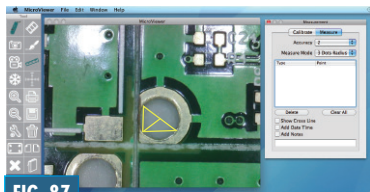

FIG. 87
5. Click the mouse on the third point of the radius or arc and the measurement will appear. The "R" means radius, "A" means area, and the "L" means arc. (Fig. 87).